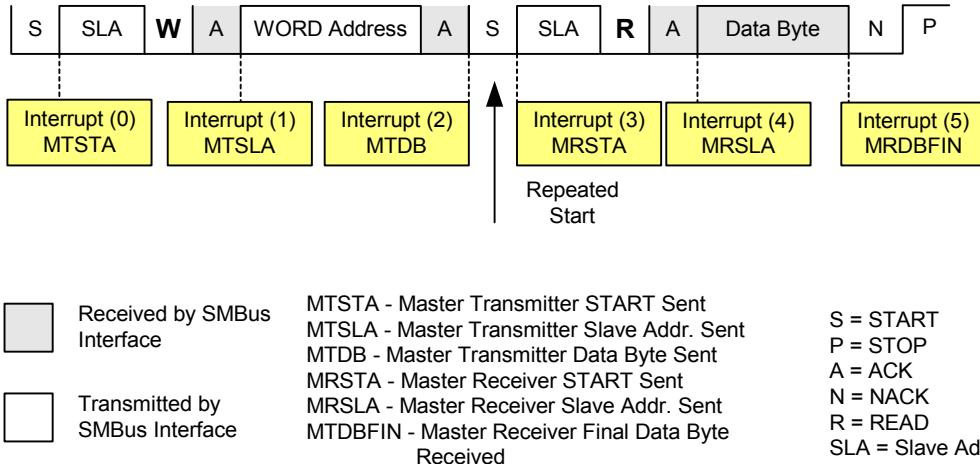

Figure 20. EEPROM Single Byte Read
EEPROM_ByteRead(). This function implements the EEPROM's random read operation. As Figure 20 shows, the host device is in Master Transmitter mode until the word address is sent. After the word address is acknowledged, Interrupt (2) sets the STA bit to send a repeated start and changes the SMB_RW flag from WRITE(0) to READ(1). From this point, the device takes the role of Master Receiver until the end of the transfer. When the data byte is received, it is NACK'd to signal the EEPROM to stop sending. The NACK is immediately followed by a STOP.
In this demonstration, we will be debugging the *EEPROM_ReadByte()* routine. The goal is to verify the individual stages (all interrupts and state changes) of the transfer shown in Figure 20. We will assume that the EEPROM word we are reading (word address 0x25) contains the data (0xBB). The Slave Address of the EEPROM is 0xA0.
Following the waveform in Figure 20, we are now in the MTSTA state. The ISR detects the START condition and prepares the SMBus interface to send the Slave Address + WRITE. The Slave address + WRITE will be sent after the SI bit is cleared. We now configure the oscilloscope to trigger on the rising edge of SCL and click the “go” button in the IDE.